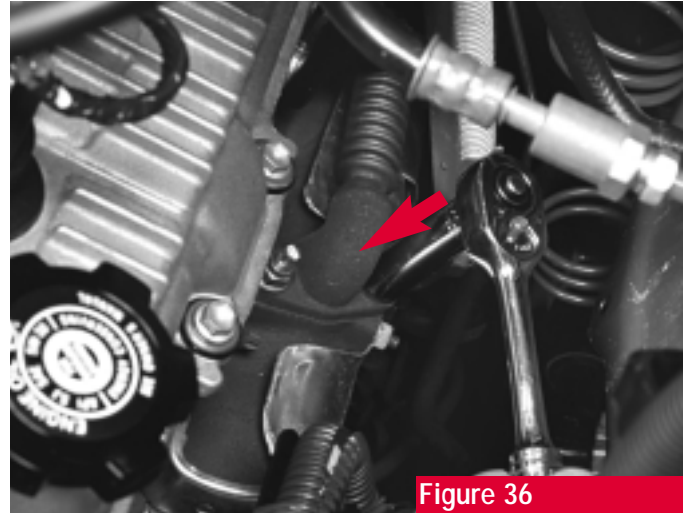

Figure 36
If your Tacoma or T-100 is equipped with an Exhaust Gas Recirculation (EGR) valve (see arrow, figure 36), you will need to remove the valve from the stock intake manifold and reattach it to the TRD supercharger manifold. Here's how:
1. Loosen the EGR pipe from the driver's side exhaust manifold. This will ease the removal and installation procedures (figure 36).
3. Tighten the nuts holding the EGR pipe to the exhaust manifold (figure 36) and torque them to the specs provided in the Toyota Repair Manual.